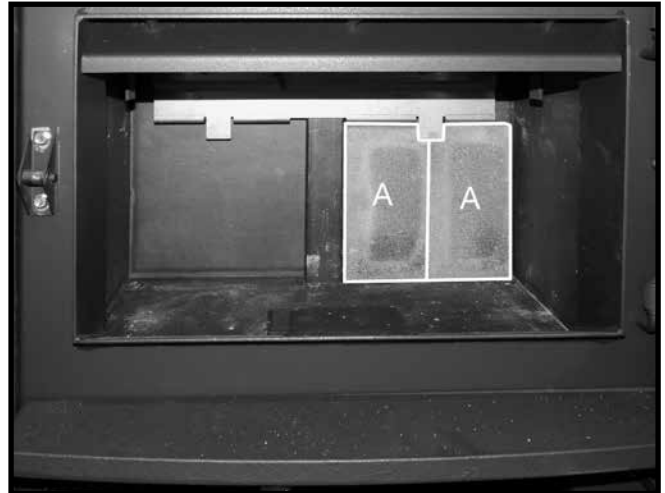

Figure 28: Installing the 2nd rear wall firebricks.
2. Slide a 2nd "A" firebrick underneath the tab on the brick rail (Figure 28).